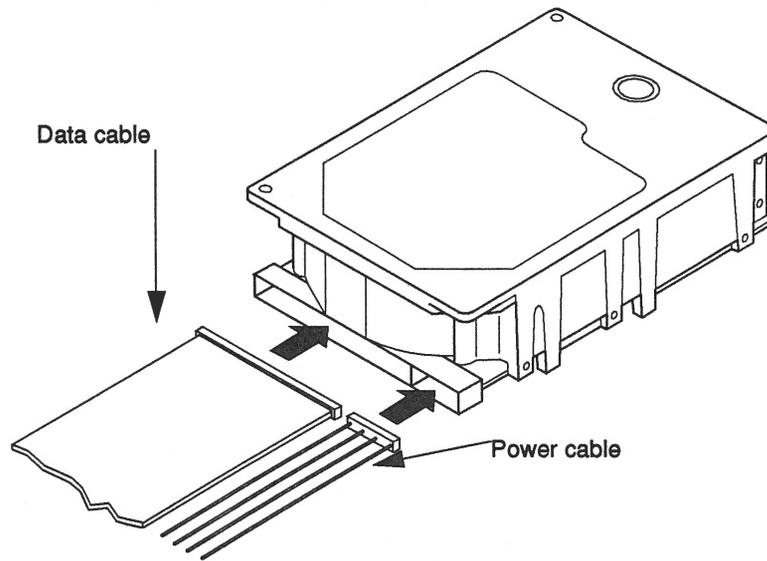

Figure 4-8 Connecting Data and Power Cables to the Drive
7. Attach the power and data cables to the drive. Refer to Figure 4-8. The power and data cables are keyed so they will only fit one way.